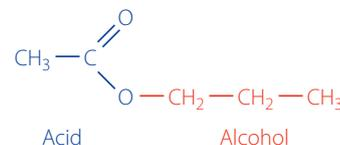

FIGURE 12.4 The name of an ester comes from the two alkyl groups on either side of the ester group.
The names of esters are two words based on the structure seen in Figure 12.4.
- 1 The first part of the name is the alkyl group directly attached to the oxygen of the ester group (right side of Figure 12.4). Originally, this part of the ester was the alcohol molecule it formed from. It is given the name in alkyl form; for example, one carbon is methyl, four carbons is butyl, six carbons is hexyl. In Figure 12.4, there are three carbons in this part of the molecule, so it is propyl.
- 2 The second part of the name comes from the carboxylic acid used in the ester formation. In Figure 12.4, this is the hydrocarbon component on the left side of the molecule. Be sure to include the carbon that is part of the ester group in this part of the name. The end of the acid name is changed from -oic acid to -oate. Figure 12.4 shows two carbons in this part of the molecule, so it is ethanoate (from ethanoic acid.)